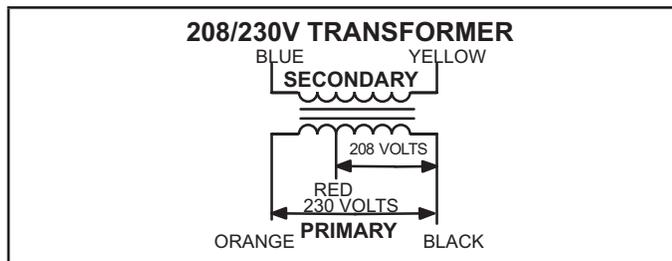

FIGURE 1
All models use a single line voltage to 24VAC transformer mounted in the control box. Transformer T1 supplies power to control circuits in the unit. The transformer is rated at 90VA and is protected by a 6.0 amp circuit breaker (CB8). CB8 is internal to the transformer. The 208/230 (Y) voltage transformers use two primary voltage taps as shown in FIGURE 1, while 460 (G) and 575 (J) voltage transformers use a single primary voltage tap.